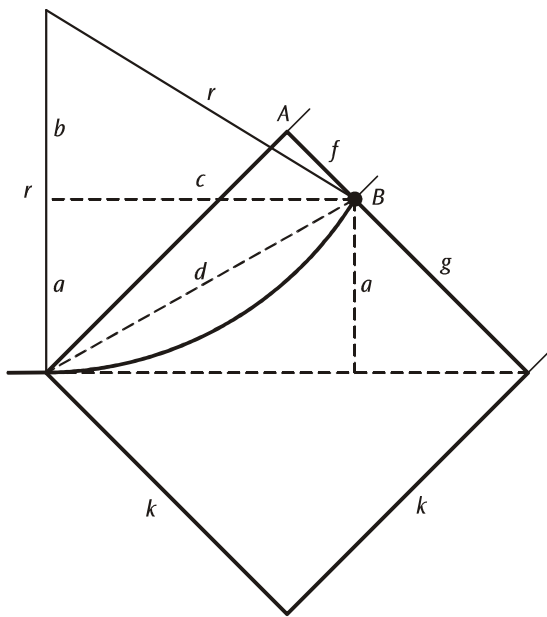

Fig. 4: Calculating radius of deflection r of electron beam exiting screen at a point B, a distance f from corner A
b) The radius of deflection r for the electron beam can be determined from the exit point B as shown in Fig. 4.